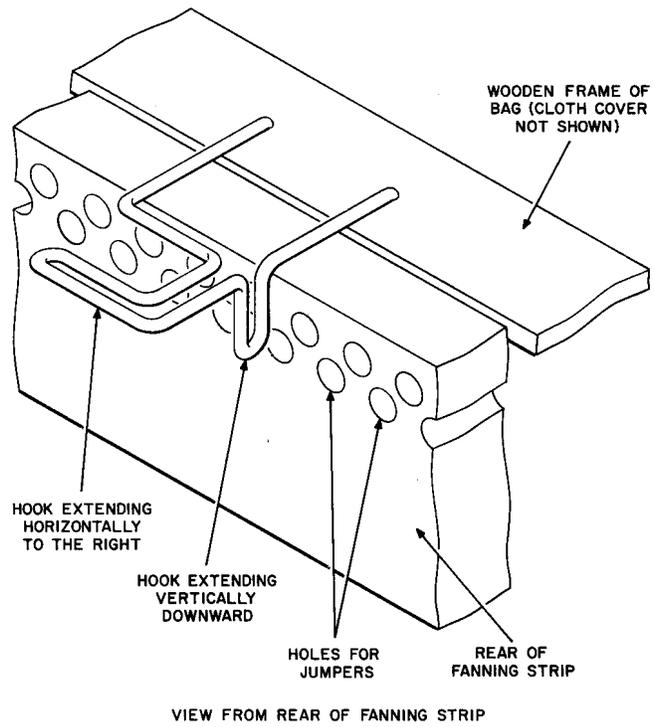

Fig. 3 — Position of Hook on Horizontal Fanning Strip
2.03 To secure the bag on a horizontal frame, the hook which extends vertically downward is placed behind the fanning strip as illustrated in Figure 3. The distance between this hook and the wooden frame supporting the cloth is approximately the same as the thickness of the fanning strip.